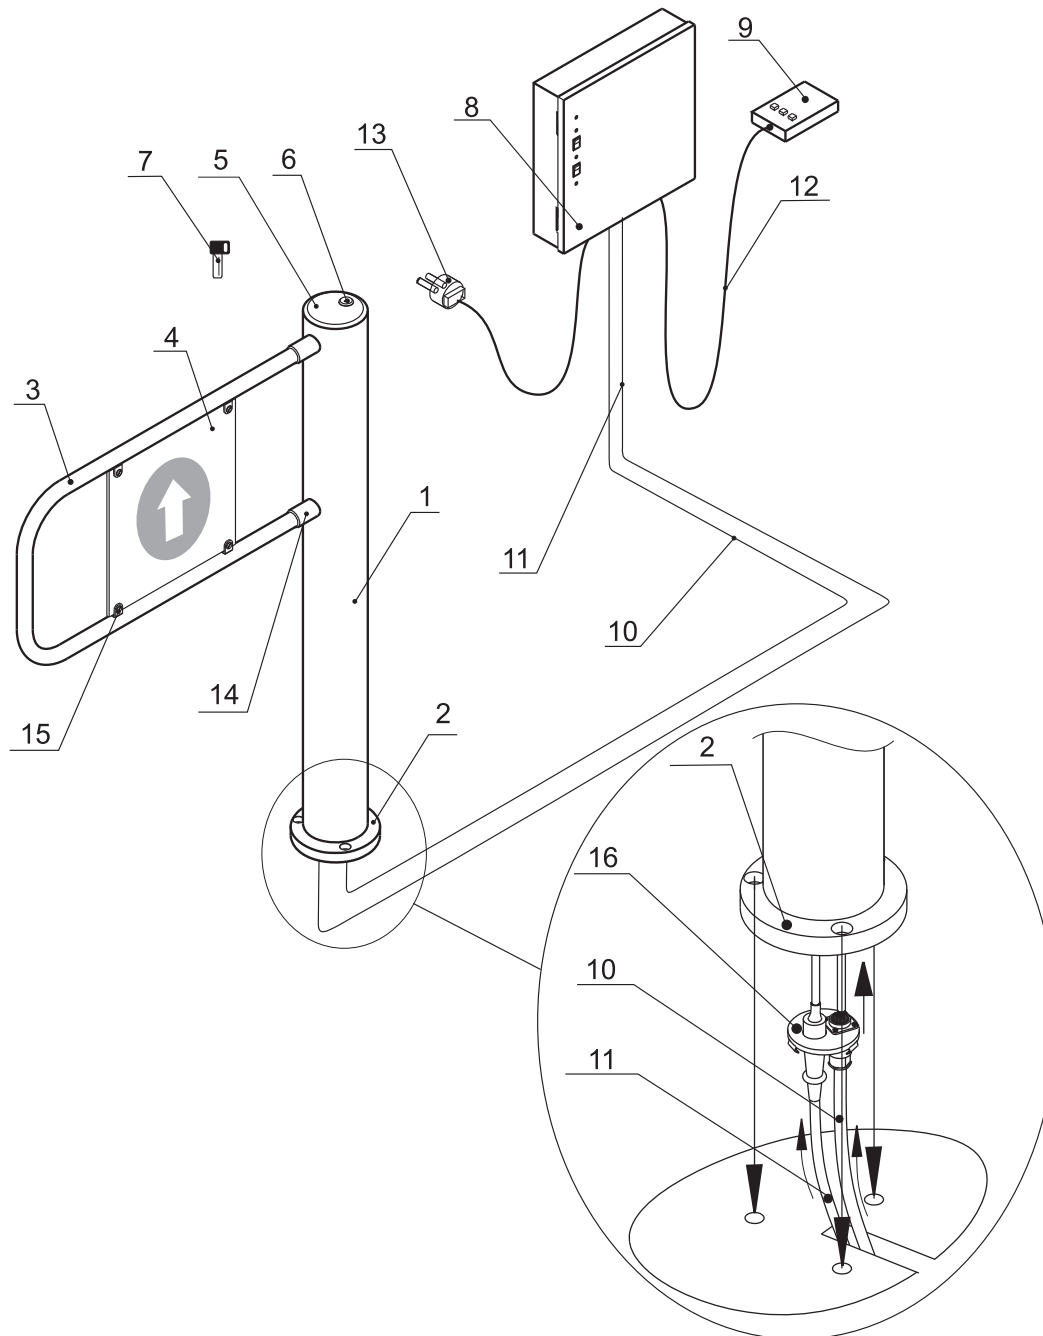

Figure 1. WMD-05S overall view
6.2.1. Design of the wicket gate is shown in Figure 1. The numbers of the items in brackets are given according to Figure 1 unless stated otherwise.
For a “Single passage in chosen direction” mode it is possible to change passage waiting time by installing jumpers on the processor module (Fig. 1 Appendix A1).
To unlock the wicket gate it is necessary to insert the key (7) into the lock (6) (see Fig. 1) and turn it 90° clockwise.